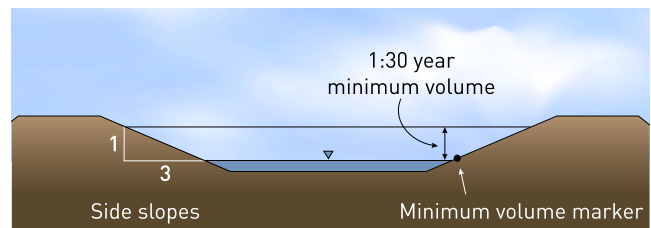

Figure 3. Side slopes and minimum volume marker
*BMP:* A marker can be used to indicate the minimum volume of the catch basin (Figure 3) so that it can accommodate a one in 30-year rainfall event.